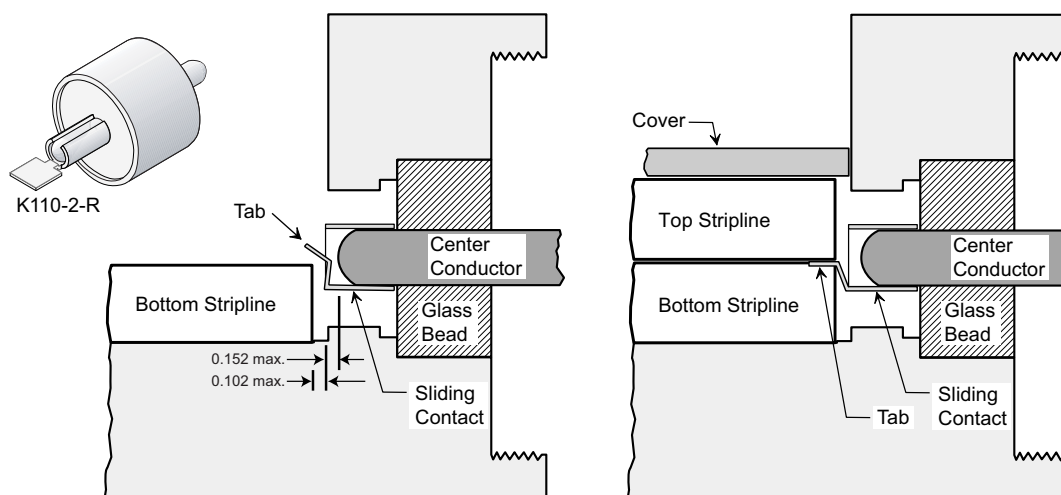

Figure 11-2. K110-2-R Sliding Contact Assembly, Method 2
- a. Using the tweezers, place the K110-2-R onto the center pin of the bead and position it as shown below in Figure 11-2, left. Gently tilt the tab on the K110-2-R upward, then install the bottom stripline into the cavity, sliding it under the tab.
- c. Install the top stripline. The finished assembly should resemble Figure 11-2 below, right.